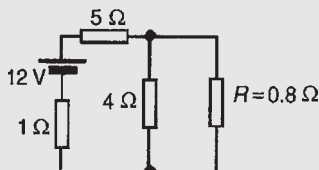

Figure 13.39
**Problem 8.** For the network shown in Fig. 13.39 determine the current in the  $0.8 \Omega$  resistor using Thévenin's theorem.